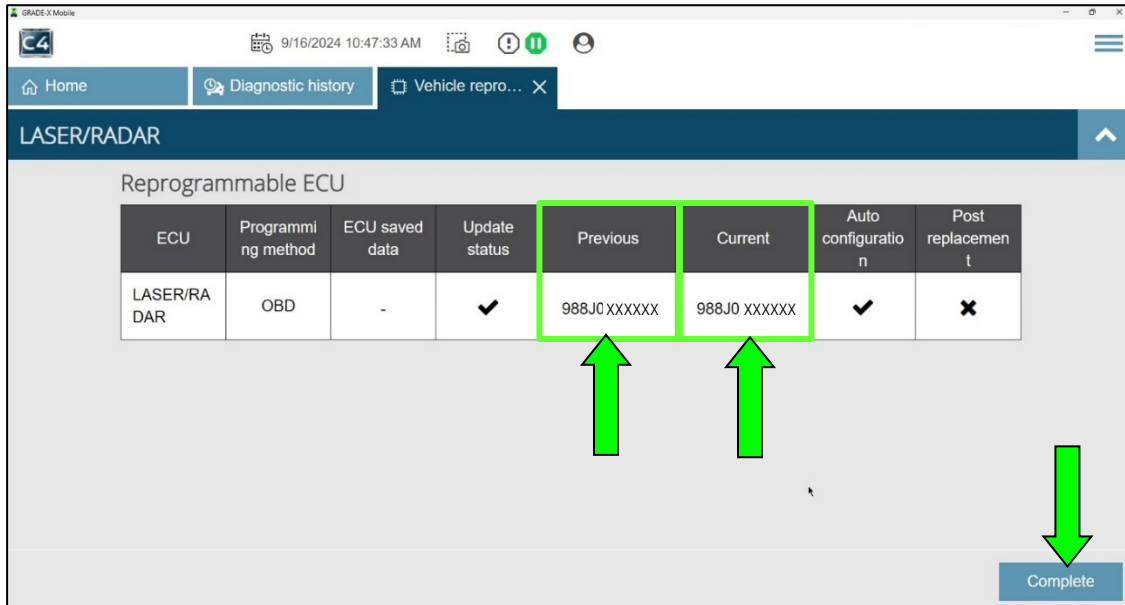

Figure 14
26. When programming finishes, confirm data in Figure 14 is updated.